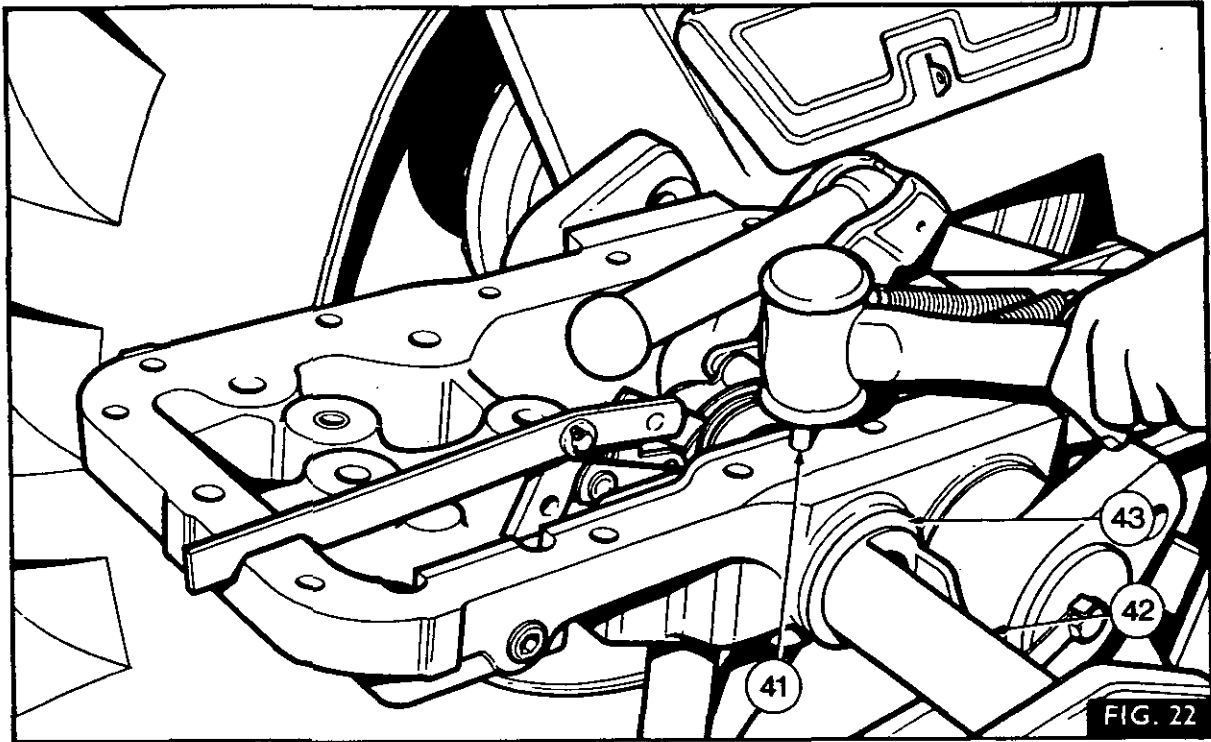

FIG. 22
6. Fig. 22. Secure the quadrant support (42) to the lift cover by compressing the Belleville spring and driving in the pin (41).